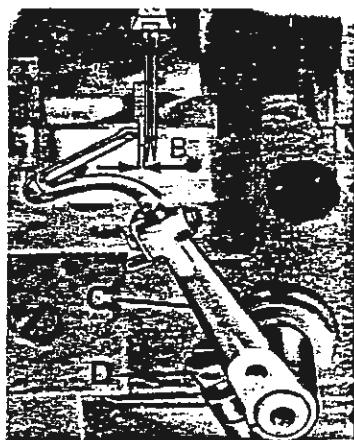

fig. 6
- When the primary looper has completed its stroke to the left and with the needle in its lowest position, the distance between the needle point and the needle should be as indicated in fig. 6.